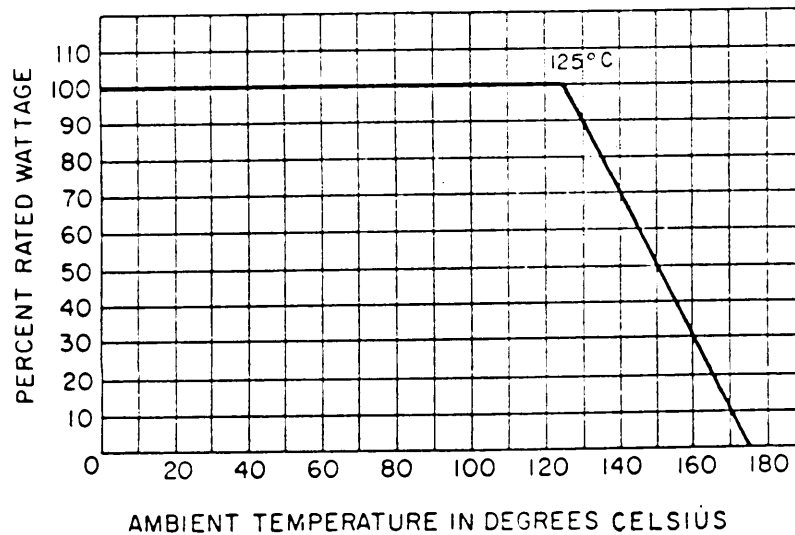

FIGURE 208-1. Derating curve.
2.2.1 Derating at high temperature. When a resistor is to be used where the surrounding temperature is higher than +125°C, it should be derated in accordance with figure 208-1.